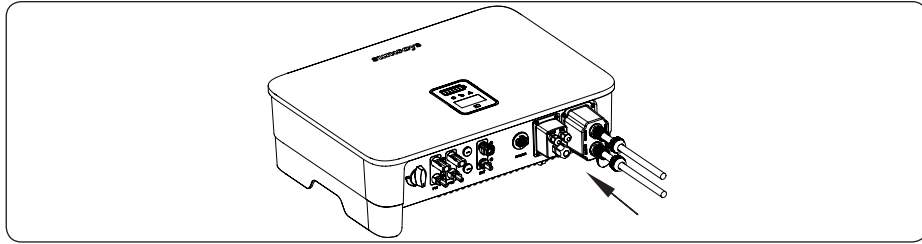

Figure 4-28
7) Screw up the rubber ring and anti-water cap to make sure the AC connector is well sealed, as shown in Figure 4-28: